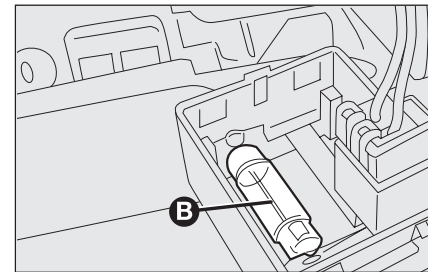

fig. 38
- replace the bulb **B-fig. 38** releasing it from the side contacts and making sure the new bulb is correctly fastened between the actual contacts;